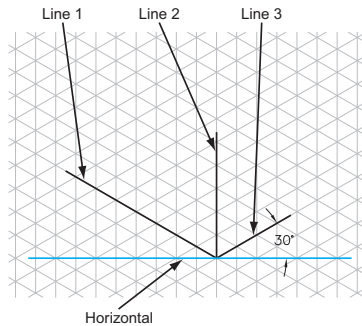

Figure 3-10. To begin an isometric sketch, make these three lines to set up the isometric axes.
1. Draw the front edge of the block. This is line 1 in **Figure 3-10**.